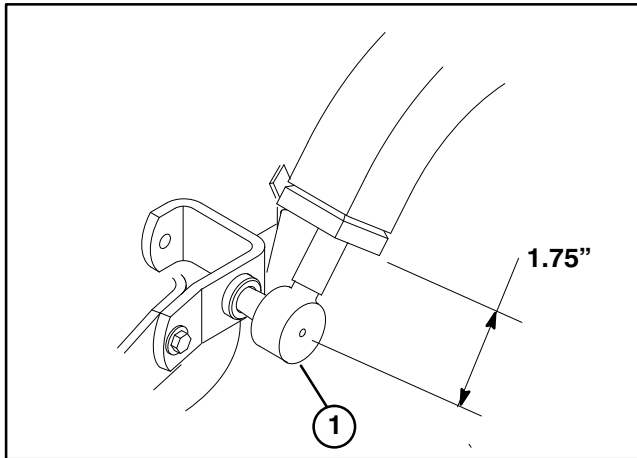
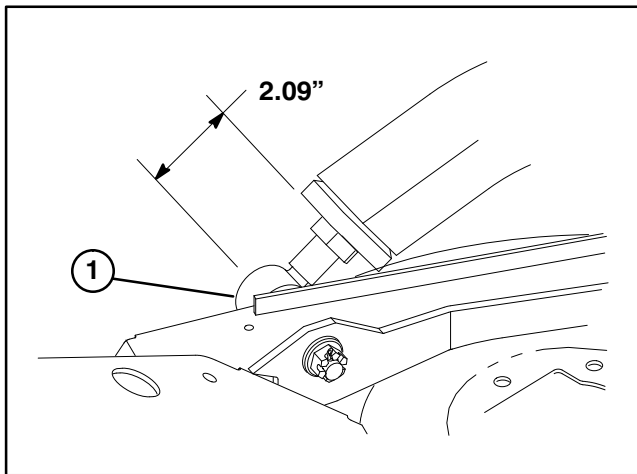

Figure 1
Figure 2
VERIFY LIFT ARM BALL JOINT ADJUSTMENT (Fig. 1 & 2)
1. Lift arm ball joints have been adjusted at the factory. The proper setting of left hand ball joint is 1.75" from end of lift arm to center of tapered stud (Fig. 1). The proper setting of right hand ball joint is 2.09" from end of lift arm to center of tapered stud (Fig. 2). These distances can be adjusted if deck alignment to traction unit is off or if the deck rubs against traction tires.